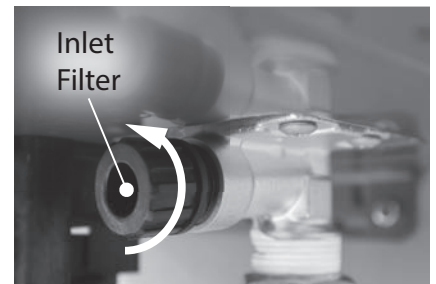

Figure 235 - Inlet filter location
**8** Locate and remove the inlet filter as shown in Figure 235 to drain any residual water left in the system.